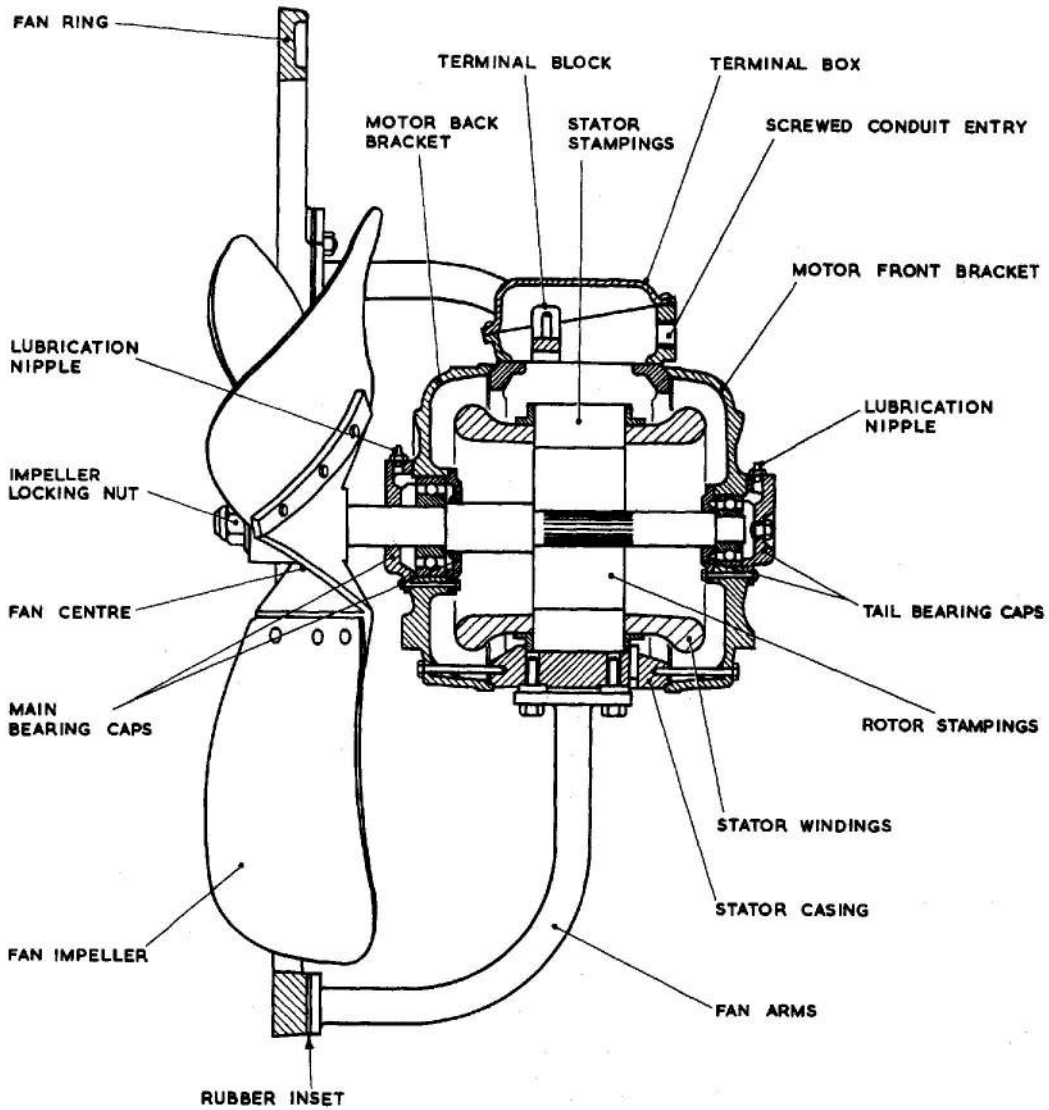

Fig.7. Fan Motor
19. If any of the last two arise the worn or damaged items should be renewed with reference to the sectional view of the fan in fig.7.